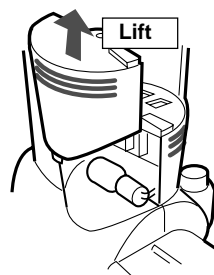

Fig.34
- 3** Lift the lamp cover. (Fig.34)